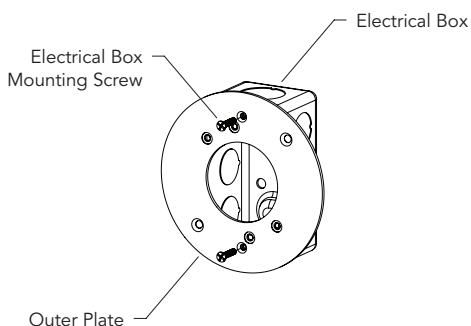

fig. 1
2. Strip the two (2) leads from the luminaire pigtail.
5. Install outer plate on electrical box using appropriate flat head mounting screws (provided) (as shown in Fig. 1). This plate has been designed for 4-0 box as well as 1-gang box.